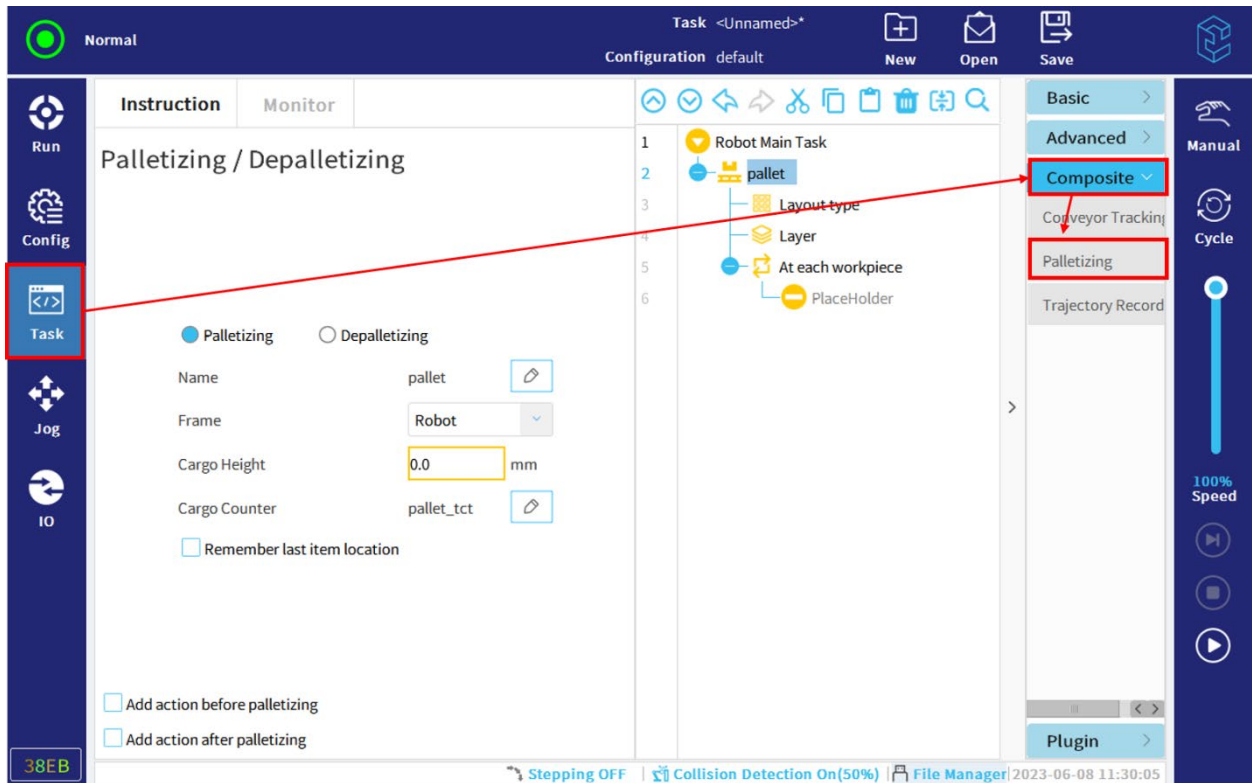

Figure 12-30 Set palletizing task parameters
2. Set the palletizing task name, frame, and cargo height, as shown in Figure 12-30.